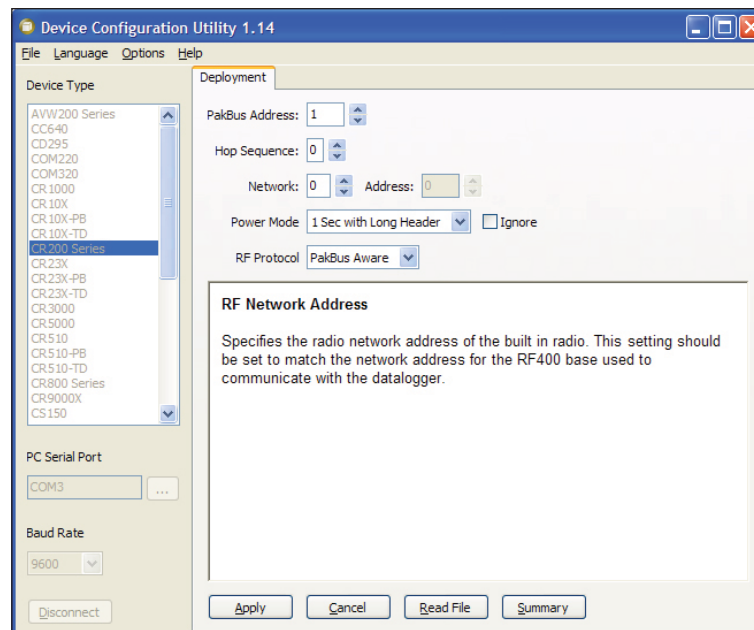

Figure 1. CR206(X) Setup Main Menu
2. Connect the CR206(X) to a COM port on your computer using a standard 9-pin serial cable.
6. Click the "Connect" button to establish communications with the datalogger. The Deployment panel in DevConfig will be displayed and the DevConfig parameters can now be entered (see Figure 1).